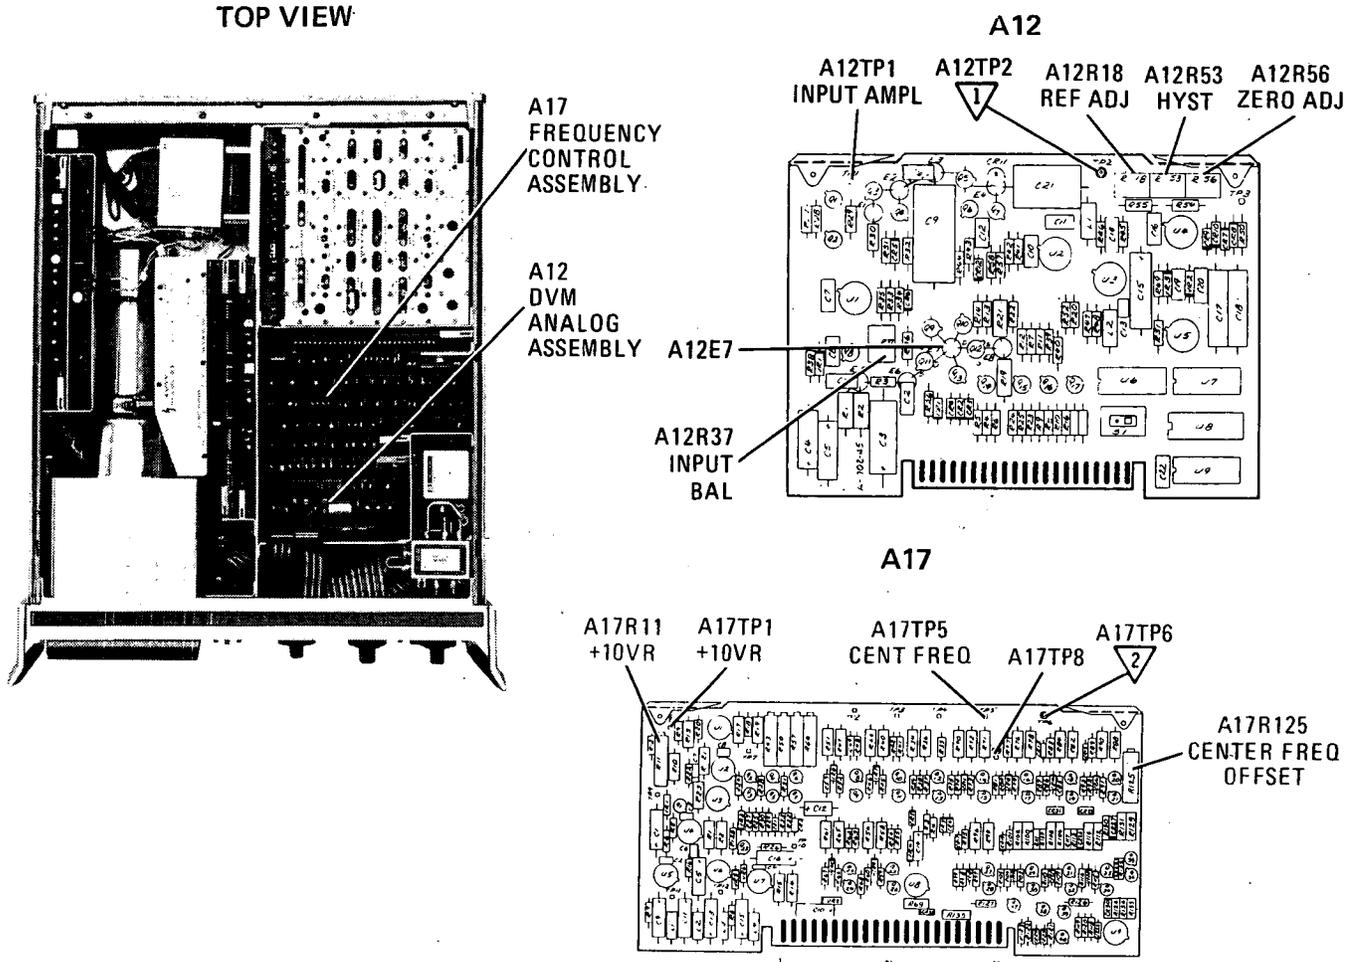

Figure 5-28. +10V Reference and Digital Readout Adjustment Locations
3. Connect digital voltmeter to A17TP1 +10VR and adjust A17R11 +10VR (Figure 5-28) for +10.000 ±0.0002V. If unable to adjust A17R11 for +10V, change factory-selected resistor A17R9\*. Decrease in A17R9\* decreases voltage.